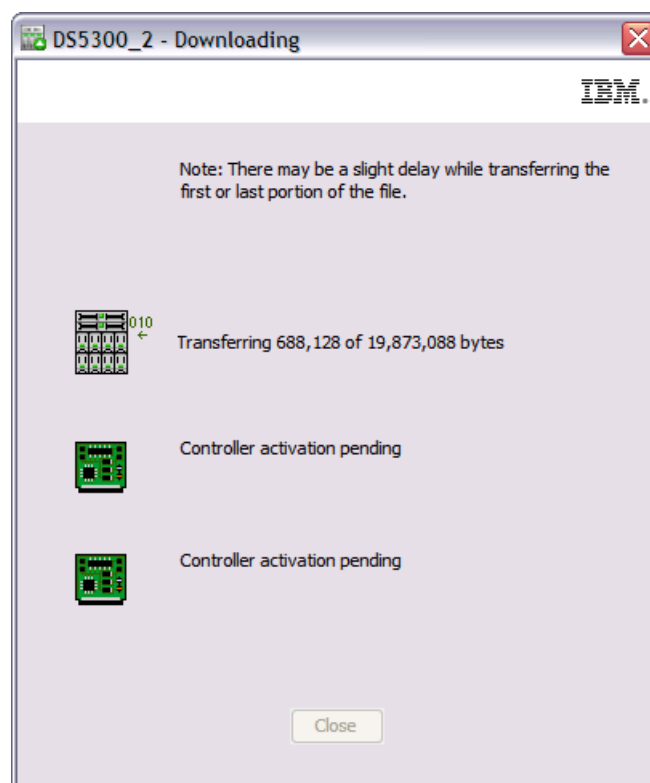

Figure 5-9 Firmware transfer progress
5. Click **Yes** to confirm the firmware and NVSRAM download (Take care that the process cannot be cancelled after it begins). The firmware/NVSRAM transfer begins and you can see the progress as shown in Figure 5-9.